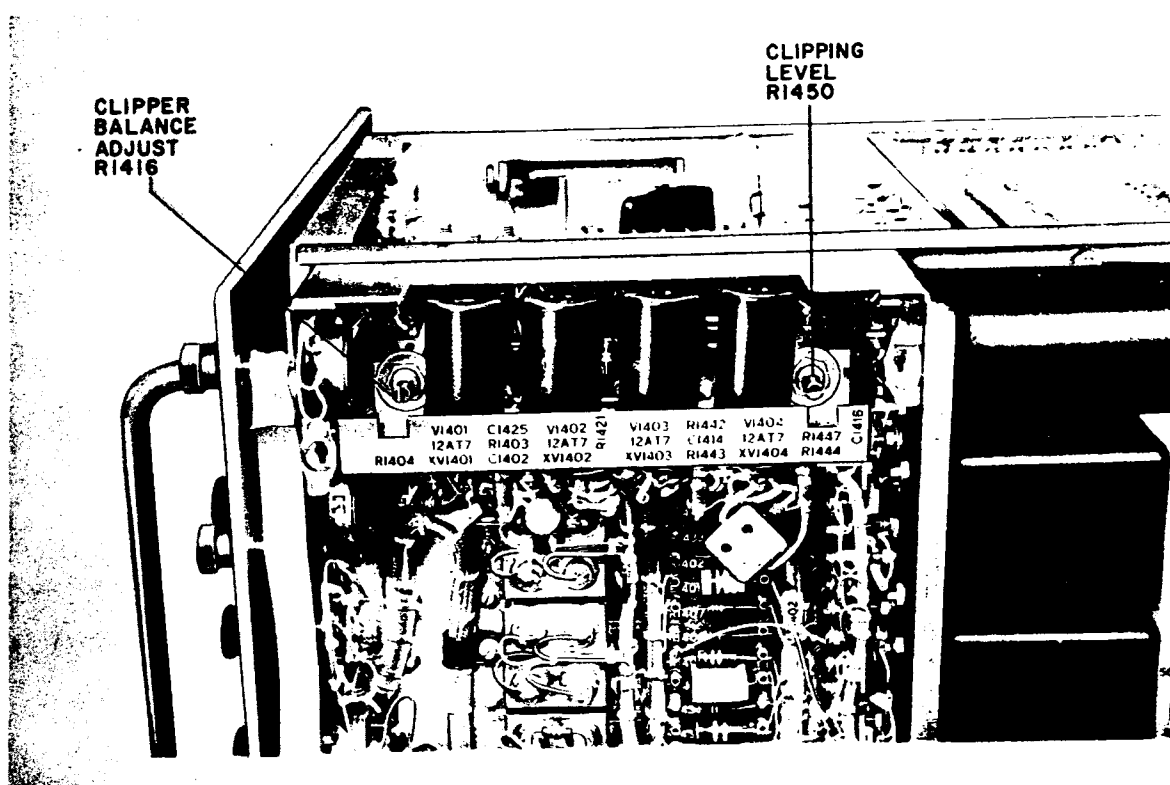

Figure 6-2. Amplifier-Power Supply AM-2198/WRT-1, Righthand Side Electrical Adjustments
(figure 6-2) until a reading of approximately 130 ohms is obtained. Remove the meter.
Step 6. Connect Multimeter AN/USM-34 series (or equivalent) to the terminal of C504 at which the black lead is attached. Set the meter to measure ohms and adjust +350 V OL ADJ potentiometer R502 (figure 6-2) until a reading of approximately 6 ohms is obtained. Remove the meter.
(5) ADJUSTMENT OF THE BIAS KEYING RELAY.
Step 3. Press PLATE POWER ON switch (S503). Observe the keying voltage waveform. Refer to figure 6-2 and adjust ADJUST LOCAL KEY RELAY potentiometer R527 until the on and off periods of the waveform are equal.